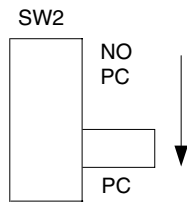

FIG. 14 Switch setting for keyboard use with PC connected
- For keyboard use with a PC, slide the SW2 switch to the "PC" position as shown in FIG. 14.